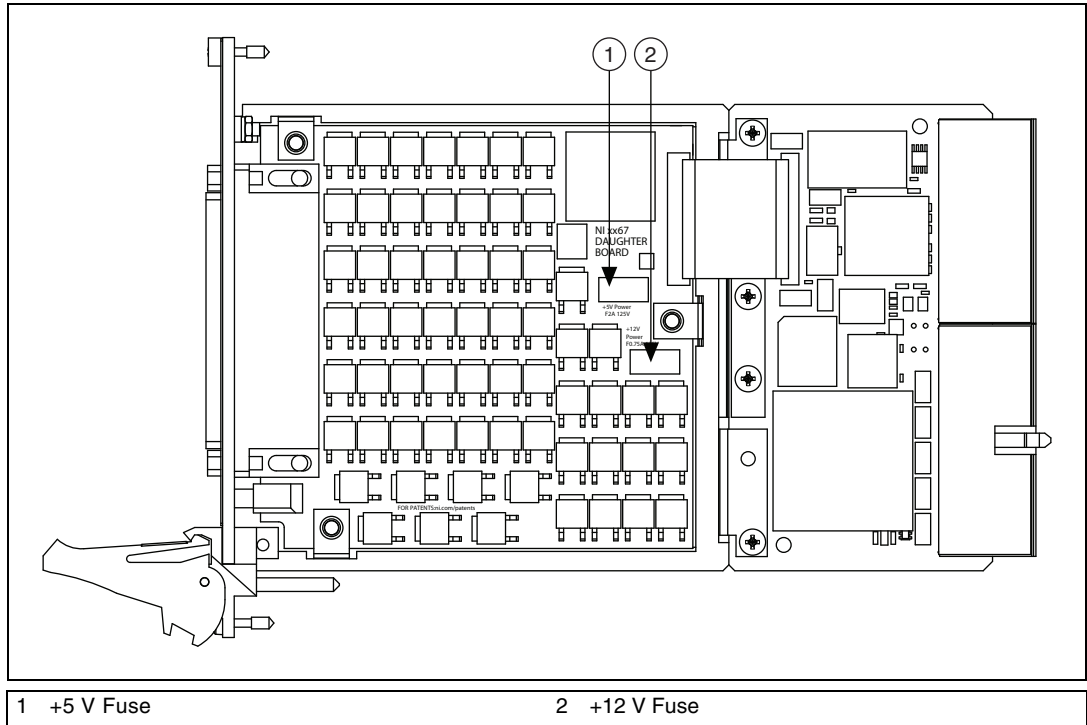

Figure 3. NI PXI-2567 Daughterboard Diagram with Fuse Locations
3. Remove the blown fuse with pliers and replace it. Refer to Figure 3 for the fuse locations.
Figure 3 shows the NI PXI-2567 daughterboard diagram.